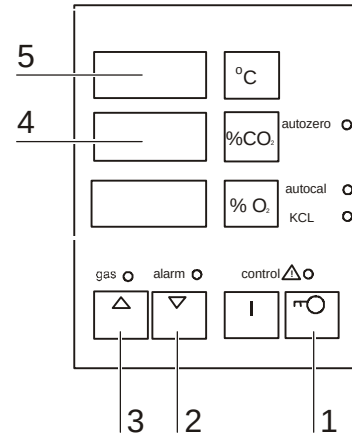

Fig. 31
1. **Fig. 31:** Keep key [1] depressed and select function level by pressing UP [3] or DOWN [2] key. The temperature display [5] shows the level (e.g. 1).